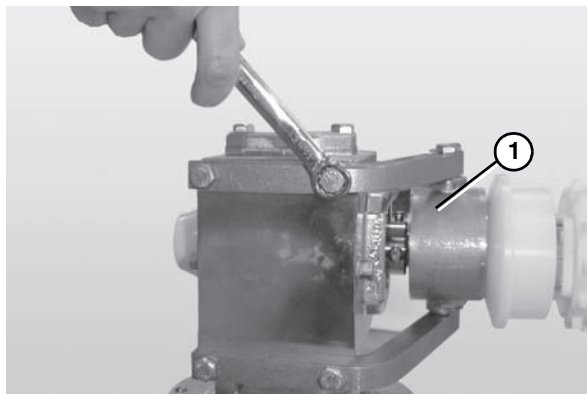

Figure 53
- Unbolt the drive assembly and slide it off the bearing spindle (**Figure 53, item 1**).